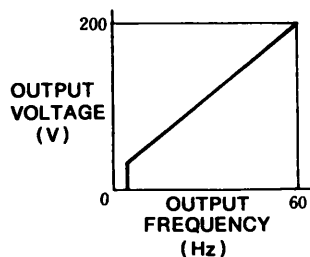

Fig. 3 Example of V/f Pattern
- (1) Base drive circuit: Drives the transistors in the inverter circuit.
- (2) Sine wave PWM control circuit: Calculates the pulse width every time a reference signal is received from the V/f control circuit, and outputs a PWM signal approximating a sine wave.
- (3) V/f selector circuit: Selects V/f pattern from 15 types of built-in voltage/frequency (V/f) patterns (Fig. 3).